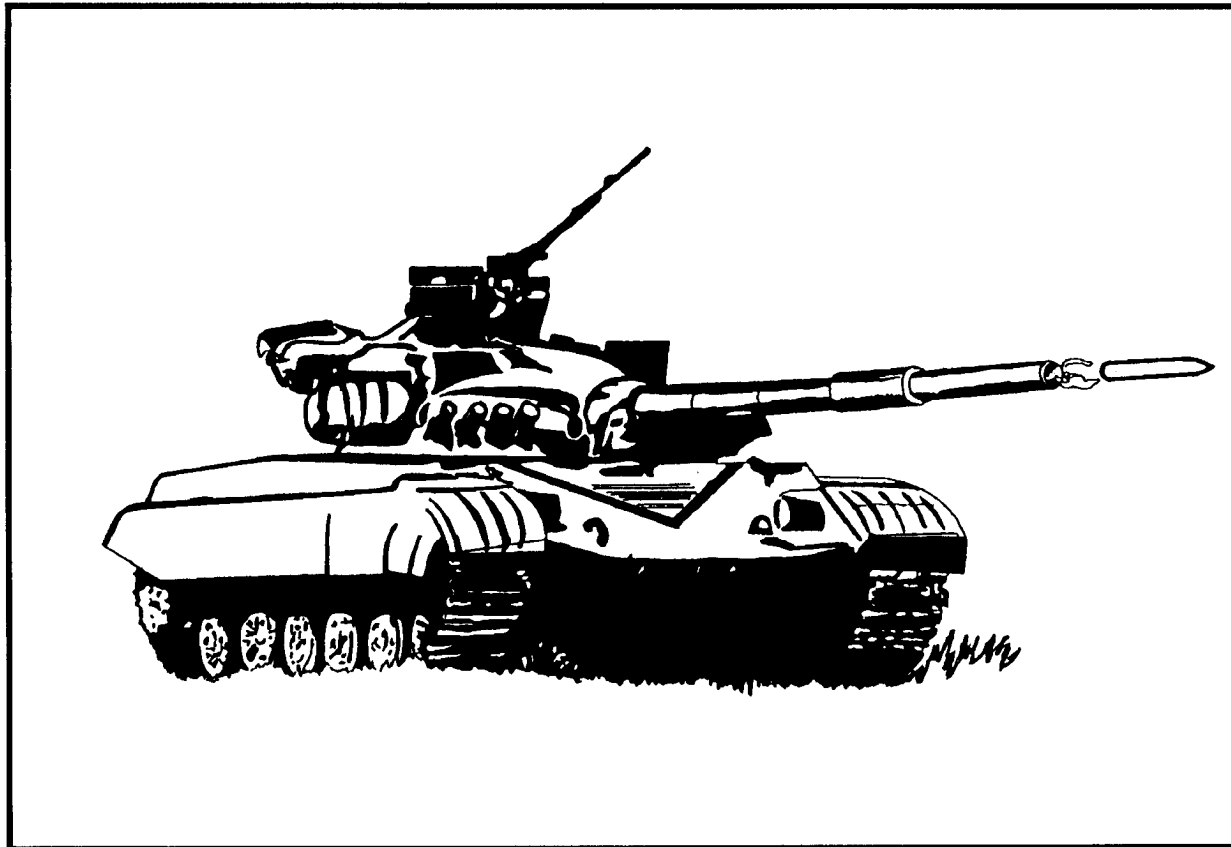

Figure F-11. AT-8 Songster.
g. AT-8 Songster (Figure F-11). This missile is one of the newest ATGMs in the Russian inventory and represents a particular threat to TOW crews, especially ITVs. The missile is fired through the main gun tube of a T-64B or T-80, but uses a boost/sustain motor to propel it to the target. The missile has a 4,000-meter range and is supersonic, giving it a short flight time. Its principal role is antitank, but it can also be used against helicopters.